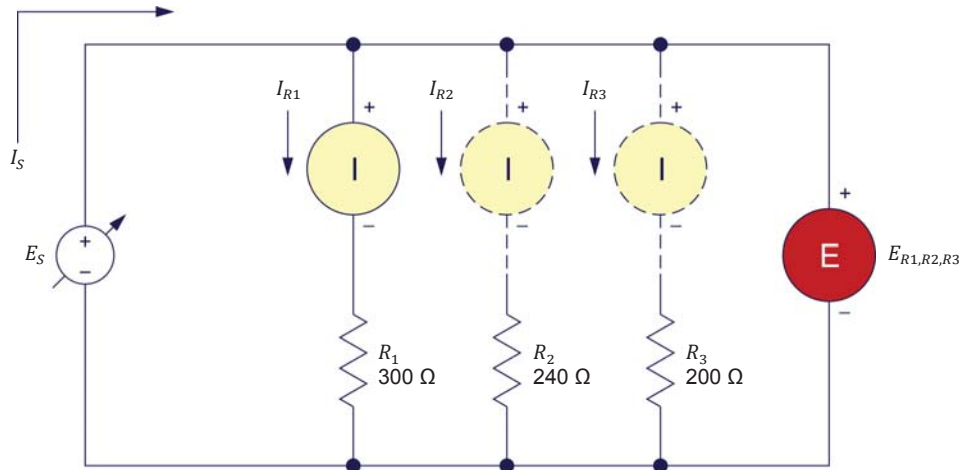

Figure 31. Circuit made of resistors connected in parallel.
11. Set up the circuit shown in Figure 31. To obtain the resistor arrangement of Figure 31, make the necessary connections and switch settings on the **Resistive Load** module.
Set a multimeter to measure dc current and connect it in series with resistor R_1 , as Figure 31 shows.
Set a multimeter to measure dc voltage and connect it across the three resistors, as Figure 31 shows.
The ammeter symbol is dashed for I_{R2} and I_{R3} in Figure 31. This occurs because the ammeter (I) will be moved in the other circuit branches to measure currents I_{R2} and I_{R3} . Close the branches of resistors R_2 and R_3 for now, using a connection lead, in order to have the three resistors connected in parallel.
12. Calculate the equivalent resistance $R_{Eq.}$ of the parallel resistors in Figure 31. Then, calculate the source current I_S based on the equivalent resistance $R_{Eq.}$ and the source voltage E_S of 50 V.
16. Turn the internal power source off. Disconnect the ammeter from resistor R_1 and connect it in series with resistor R_2 , as Figure 31 shows. Make sure to keep the three resistors connected in parallel.
17. Turn the internal power source off. Disconnect the ammeter from resistor R_2 and connect it in series with resistor R_3 , as Figure 31 shows. Make sure to keep the three resistors connected in parallel.
4. Refer to Figure 31. If one of the resistors is removed from the circuit, what happens to the source current I_S and the source voltage E_S ?